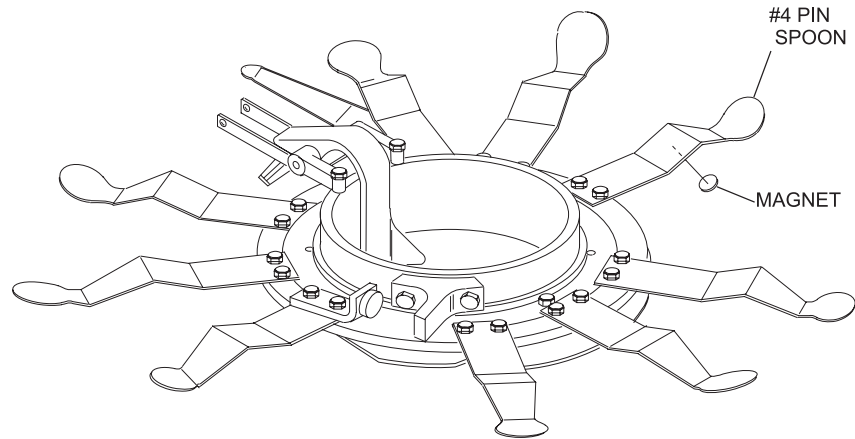

Figure 4
2. Locate the #4-PIN spoon and attach the magnet as shown in *Figure 4*.